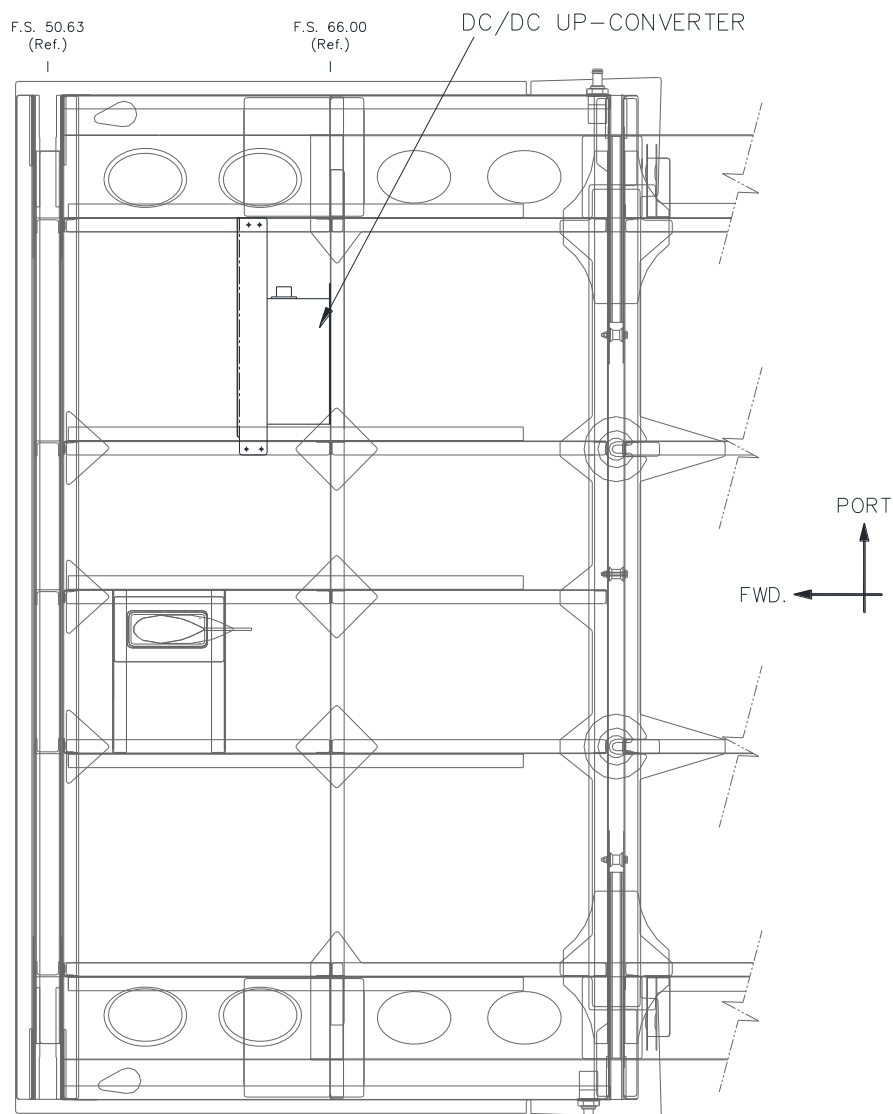

Figure 6 – Location of DC/DC Up-Converter. View looking up at roof.
1. To gain access to the DC/DC Up-Converter, remove the roof trim panel immediately aft of the electrical overhead panel. Refer to Figure 6 for location of the DC/DC Up-Converter.